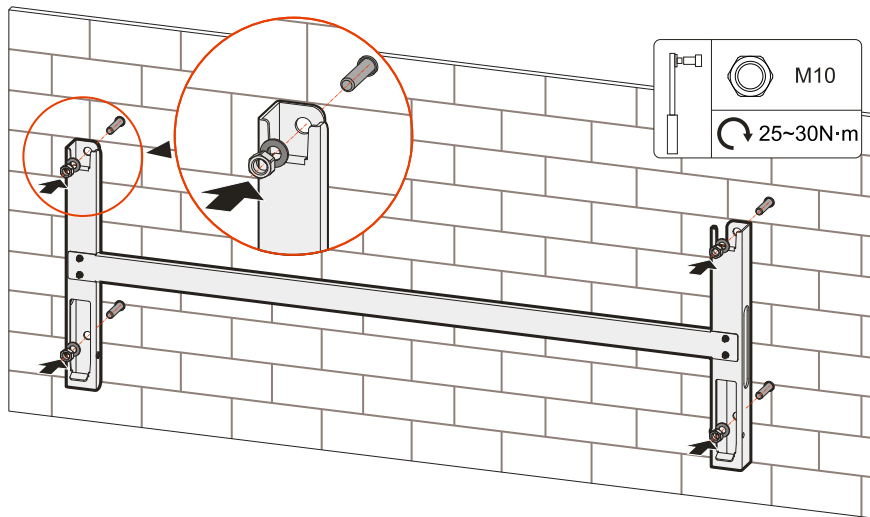

Figure3-23 Fix the installation holder
Step 5 Install the installation holder. Fix the installation holder to the expansion bolts, put on flat washers, spring washers and nuts, and then tighten the nuts clockwise with a wrench, as shown in Figure3-23.